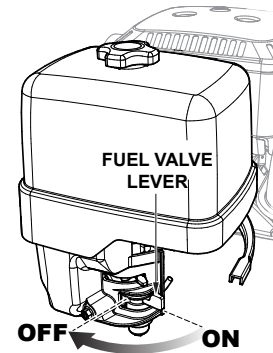

Figure 15. Fuel Valve Lever (OFF)
3. Place the fuel valve lever in the **OFF** position (Figure 15).